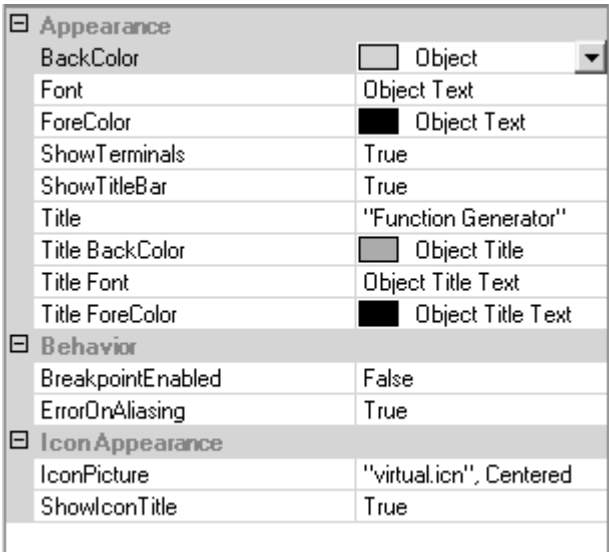

Figure 12 Changing the Title of an Object
- 1 Open the object menu and select **Properties . . .**. A Properties window appears on the left side of your screen. Select the Title property and change the property value to whatever you would like, in Figure 12.